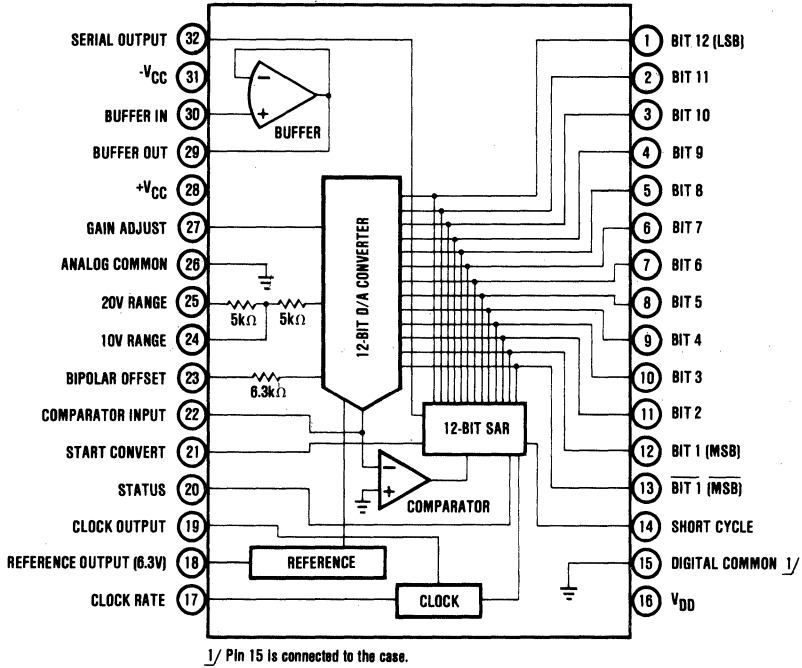

FIGURE 2. Circuit Diagram and Terminal Connections (Bottom View).
3.2.8 Circuit diagram and terminal connection. The circuit diagram and terminal connections are shown in Figure 2.